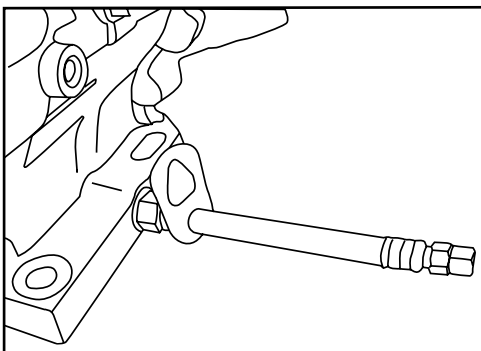

Fig 16. Engine Oil (Draining)
1. Drain the engine oil when the oil is warm as shown (Figure 16).